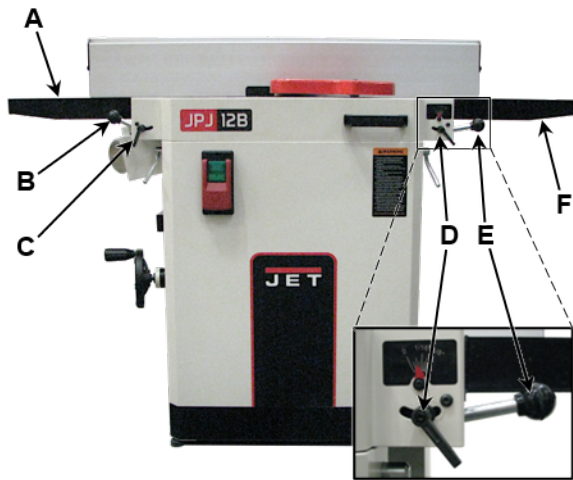

Figure 7
Refer to Figure 7:
1. Set the *infeed table* (F, Fig. 7) to approximately the same height as the *outfeed table* (A, Fig. 7).
2. Move the *fence* (A) by releasing the *assembly locking handle* (F) and pushing the *fence assembly* (E) until it overlaps the tables. Then, tighten the *assembly locking handle* (F).
3. Adjust the *fence* (A) to a 90° angle by releasing *tilt locking handle* (G), pulling the fence upright, and tightening the tilt locking handle.
2. Move the *fence* (A) by releasing the *assembly locking handle* (F) and pushing the *fence assembly* (E) until it overlaps the tables, then tighten the *assembly locking handle* (F).
3. Adjust the *fence* (A) to a 135° angle by releasing the *tilt locking handle* (G), moving the *stop plate* (D) out of the way, and positioning the fence against the *backward stop bolt* (H). Tighten the *tilt locking handle* (G).
4. Place an angle measuring device on the table and against the *fence* (A) to confirm a 135° setting.
5. To adjust, loosen the *tilt locking handle* (G) and *lock nut* (I), then turn the *backward stop bolt* (H) until a 135° angle is obtained.
6. Tighten the *lock nut* (I) to retain the setting. Tighten the *tilt locking handle* (G).
2. Fully swing the *cutterhead guard* (G) away from the *fence* (B). It is recommended to then use a *6mm hex wrench* (F) (one is included with the machine) as a makeshift stop to hold the guard in place. To do this, insert the wrench into the front right roller tension adjustment screw. The cutterhead guard can then be released and the wrench will prevent it from swinging back towards the fence.
3. Slide the *fence assembly* (B) back (C) as far as it will go, or remove it from the machine entirely (use a 5mm hex wrench to remove the four button head socket screws and then remove the fence assembly).
4. Loosen the *outfeed table lock handle* (C, Fig. 7) on the *outfeed table* (A). Use the *outfeed table adjustment handle* (B, Fig. 7) to raise the outfeed table higher than the cutterhead.
7. Each table has four *adjustment cams*; two in front (A) and two in back (D). A small hole with a *set screw* (C) inside is near each cam.
Note: The two cams at the front of each table are concealed by the *front cover* (B). The front cams furthest from the cutterhead can be accessed from below the cover, when the jointer table is raised and the machine is in the planer orientation (see sect. 9.1, *Jointer to Planer Setup*). If adjusting one of the front cams closest to the cutterhead, the front cover must first be removed to access the set screw. Use a cross-head screwdriver to remove the infeed table scale pointer, turn the *infeed table lock handle* (D, Fig. 7) and *outfeed table lock handle* (C, Fig. 7) counterclockwise to remove them, and use a 5mm hex wrench to remove the four flat head socket screws along the top of the front cover; then remove the front cover.